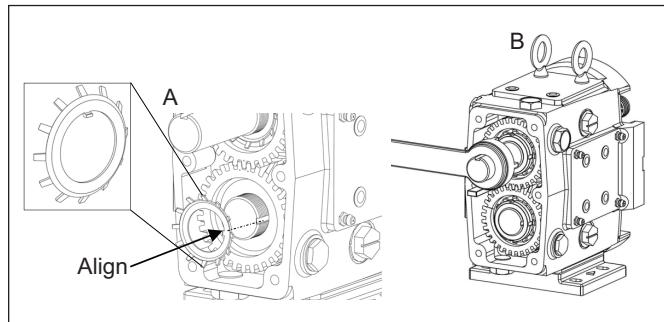

Figure 54. Installing Lock Washer and Lock Nut
9. Install the lock washers on the shaft by aligning the tab inside the lock washer with the slot in the shaft (*Figure 54, A*). Lubricate the threads of the lock nuts and thread them on the shafts. Using a spanner wrench, tighten them to the specified torque in *Table 6*. Use a wedge (wood or plastic) between the gear teeth to keep the shafts from turning while tightening the lock nuts (*Figure 54, B*).